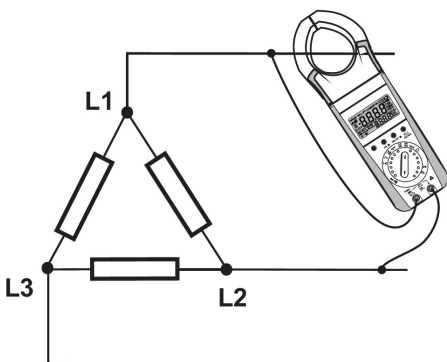

Fig 25 Connection Diagram for 3P3W Balanced Load
- 2 The meter display will indicate "L1-2" and "I-1". Connect the meter to Phase 1-2 as illustrated in figure 25.